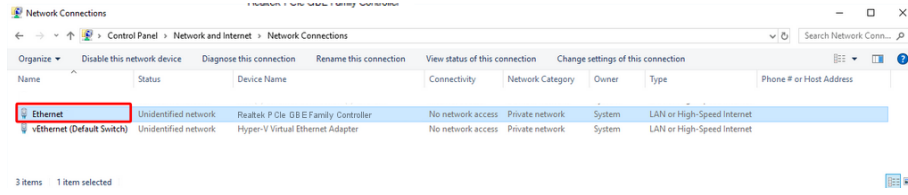

Figure A.4: Selecting the adapter
**Step 4** Double-click on "Ethernet" (Figure A.4).